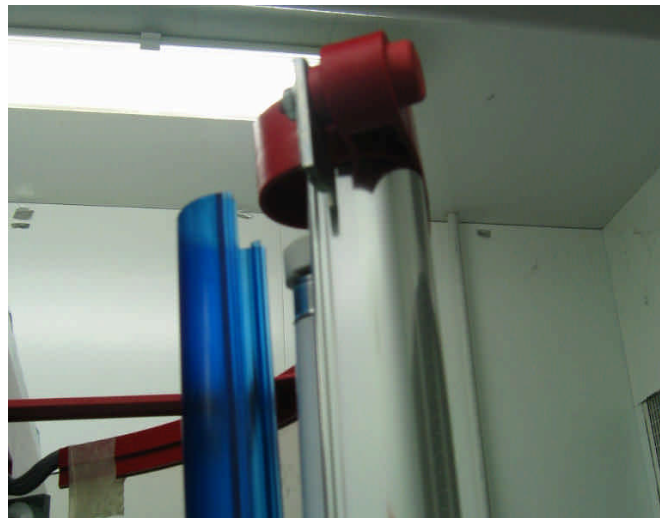

Figure 38
The tank lamps (LV) (41), located inside the aluminium door side profiles and fixed by the lamp holders (60), are protected by the lamp cover profiles (67), snap fitted to the aluminium profiles (fig. 38).
2.6.1.1 LAMP COVER PROFILE (67) REMOVAL
The lamp cover profiles (67) are snap fitted and can be removed by simply pulling them out from the aluminium profiles (Fig. 38).